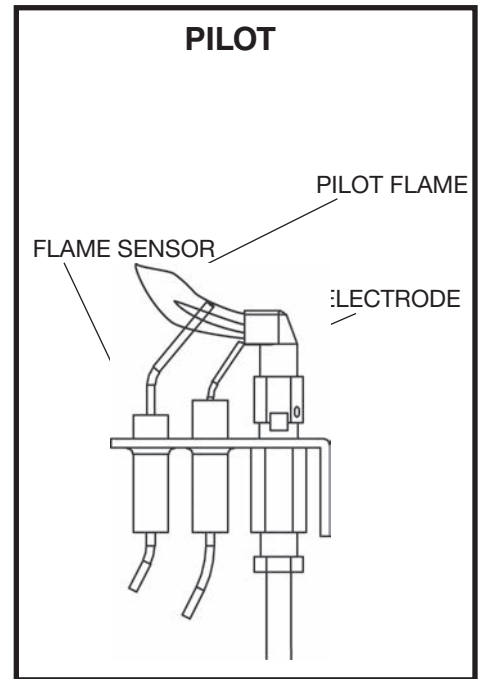

Figure 79: Pilot assembly.
- B) CHECK THE PILOT SYSTEM FOR PROPER FLAME SIZE AND OPERATION. CLEAN PILOT FREE OF SOOT, DUST OR ANY OTHER DEPOSITS, SEE (FIGURE 79).